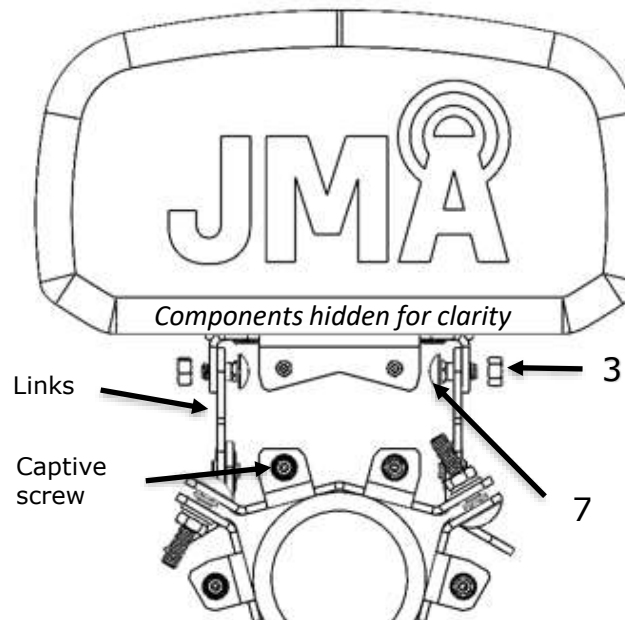

Figure 15: Mounting antenna to pole – 3.5" diameter shown as example
12. Line up antenna brackets with the corresponding pole brackets with links in the extended position. See *Figure 15* below.
13. Install 0.7" bolts, item 7, and hex nuts, item 3, on the top antenna-to-pole bracket attachment points. Torque each bolt to 13 lbf-ft.